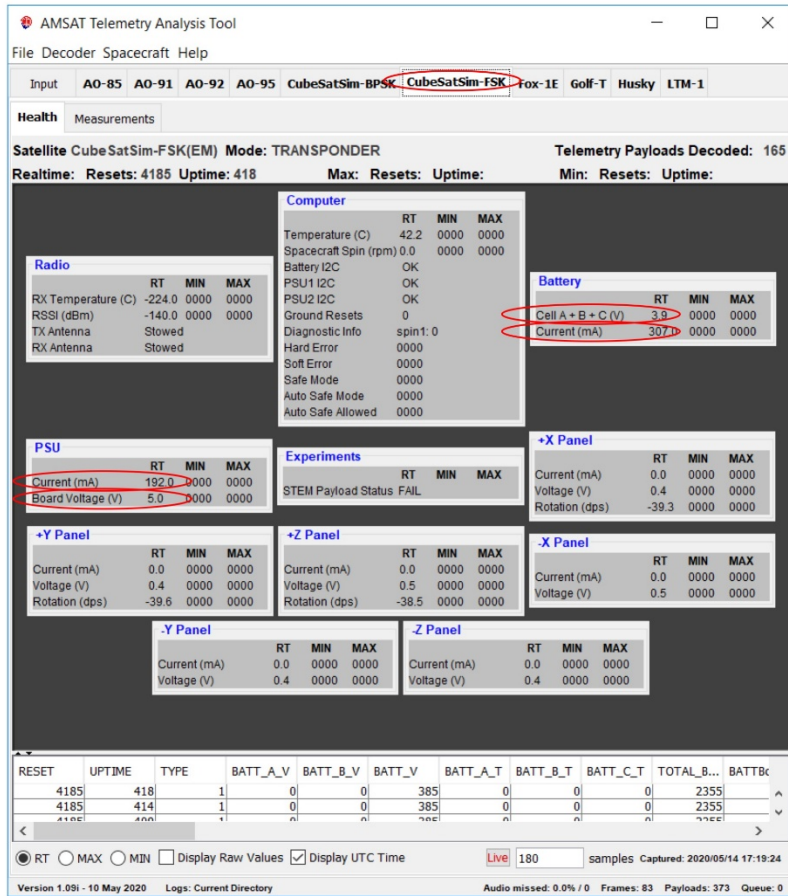

Figure 9 — FoxTelem CubeSatSim-FSK battery and power supply telemetry data.
The basic power subsystem information on the CubeSatSim is available in the CubeSatSim-FSK tab in the Health tab, after telemetry frames have been received and decoded, as shown in Figure 9. Examine the following fields: under Battery, Cell A + B + C (V) gives the voltage (3.9 V) of the battery pack, the three NiMH AAA cells in series. When you plug in the micro USB power supply to charge, the battery pack voltage will jump to over 4.0 V. Figure 9 also shows that the battery is supplying a current of 307 mA. A battery voltage of 3.9 V produces 1.2 W of power. Over a long run, the battery pack voltage averages 3.6 V and the battery current 246 mA. This gives an average power of 886 mW.
As shown in Figure 9, under PSU (Power Supply), the Current (mA) gives the Electrical Power Subsystem (EPS) bus current (192 mA), and the Board Voltage (V) gives the EPS bus voltage (5.0 V).